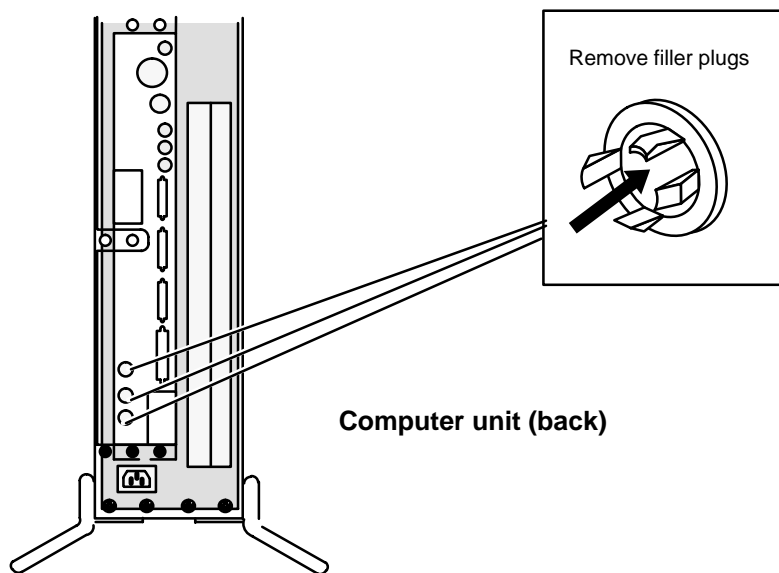

Figure 9-23 Removing the Graphics Monitor Connector Filler Plugs
1. From inside the computer unit, push out the three filler plugs that cover the monitor connector slots on the computer unit bulkhead, as shown in Figure 9-23.